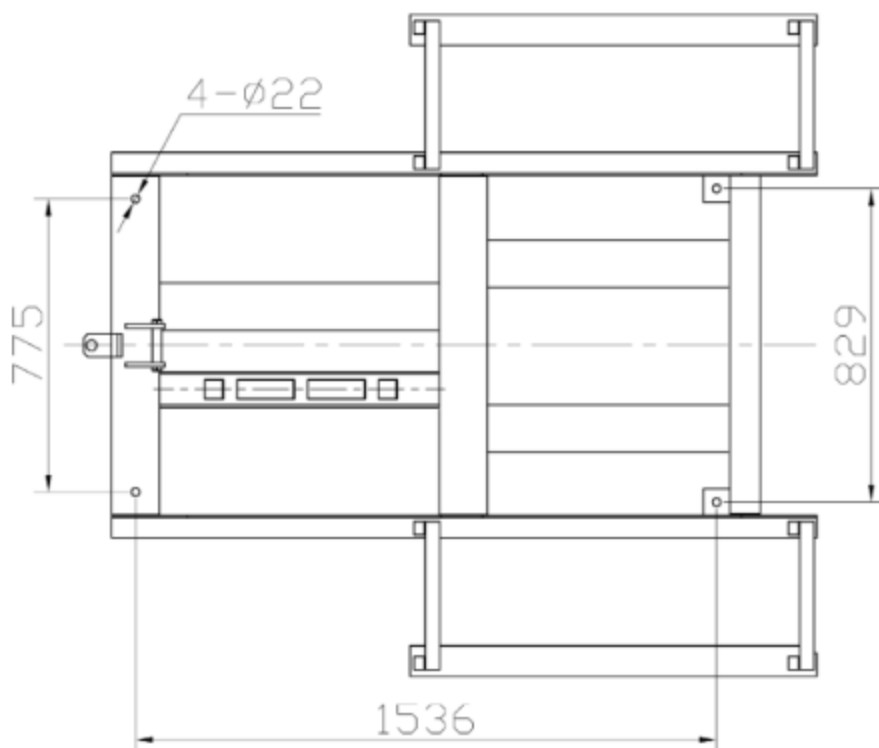

Fig.19
1. There are four fixed holes in the machine, can fix the machine on ground by 3/4 X 5 1/2" anchor bolts (See Fig.19).